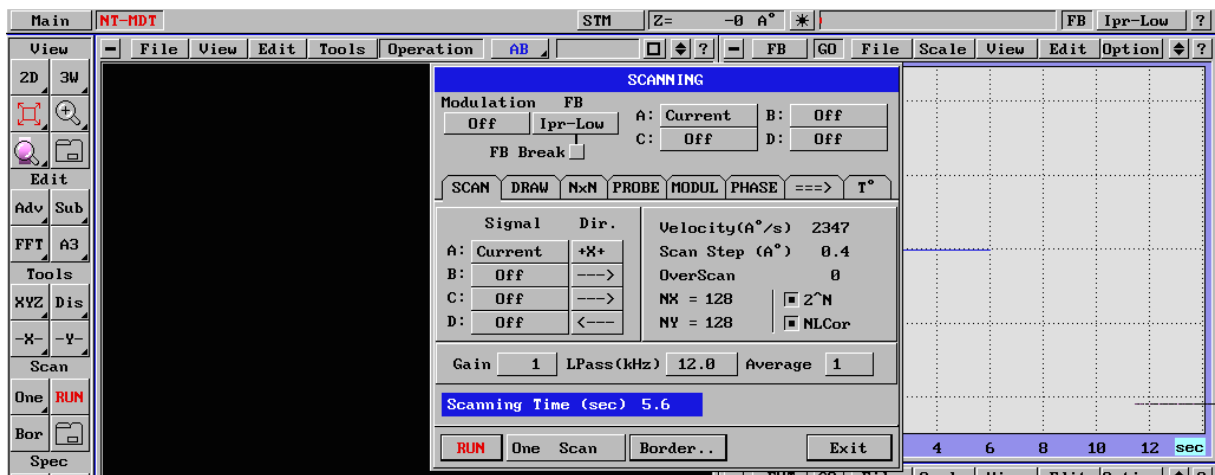

Fig. 75
- Velocity - max (Fig. 75)
- Step (A) - 0.2 - 0.5 (Fig. 75)
- NX xNY - 128 ÷ 128 (Fig. 75)
- NL Corr - on (Fig. 75)
- A: Scan dir - +X+ (Fig. 75)
- Gain = 1 (Fig. 75)
- Lpass(kHz)=12 (Fig. 75)
- Average = 1 (Fig. 75)